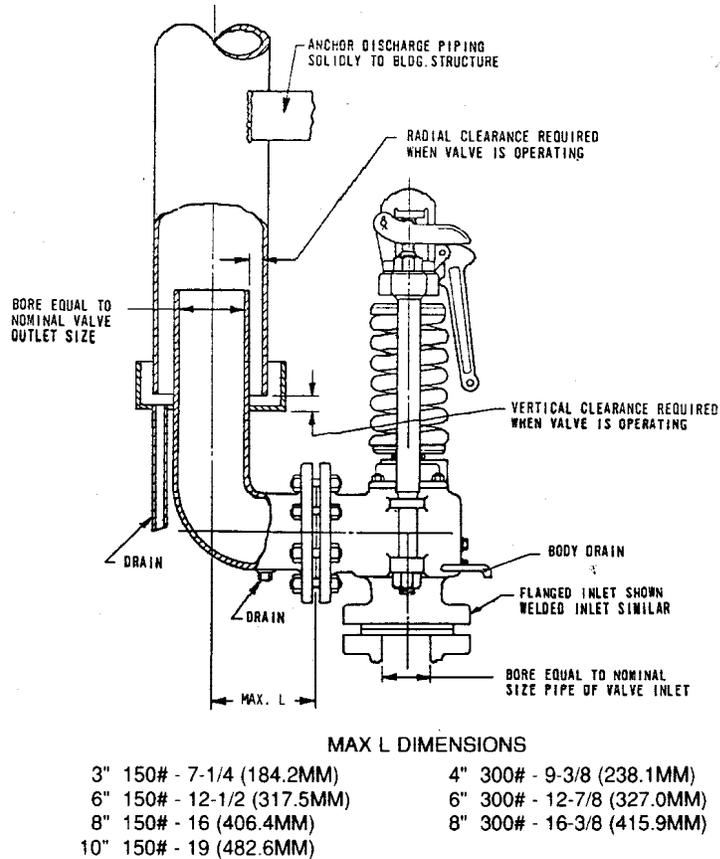

FIGURE 4
1. The valve should be installed to meet all the requirements of Figure 4 (below).